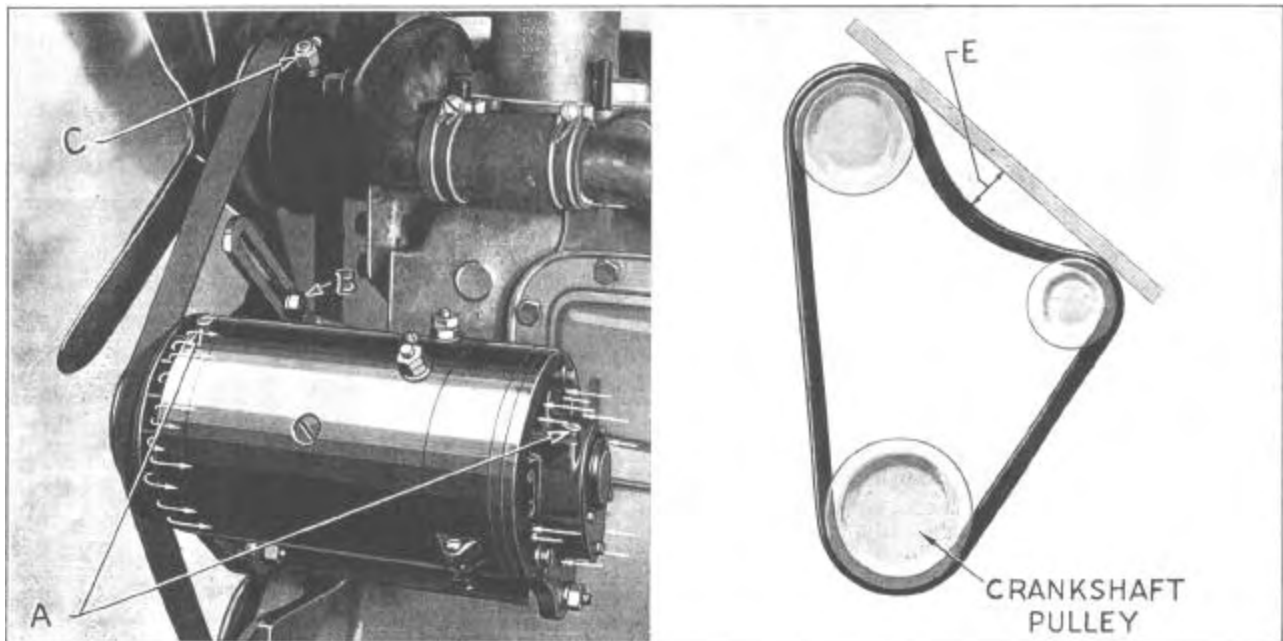

Figure 602—Generator Hub and Fan Belt Adjustment
Generators are provided with hinged top oilers over the bearing at either end. Lubrication should include a few drops of light engine oil in each oiler (A), (Figure 602).
Check fan belt adjustment. The sag should be 1" as shown at (E) in Figure 602.